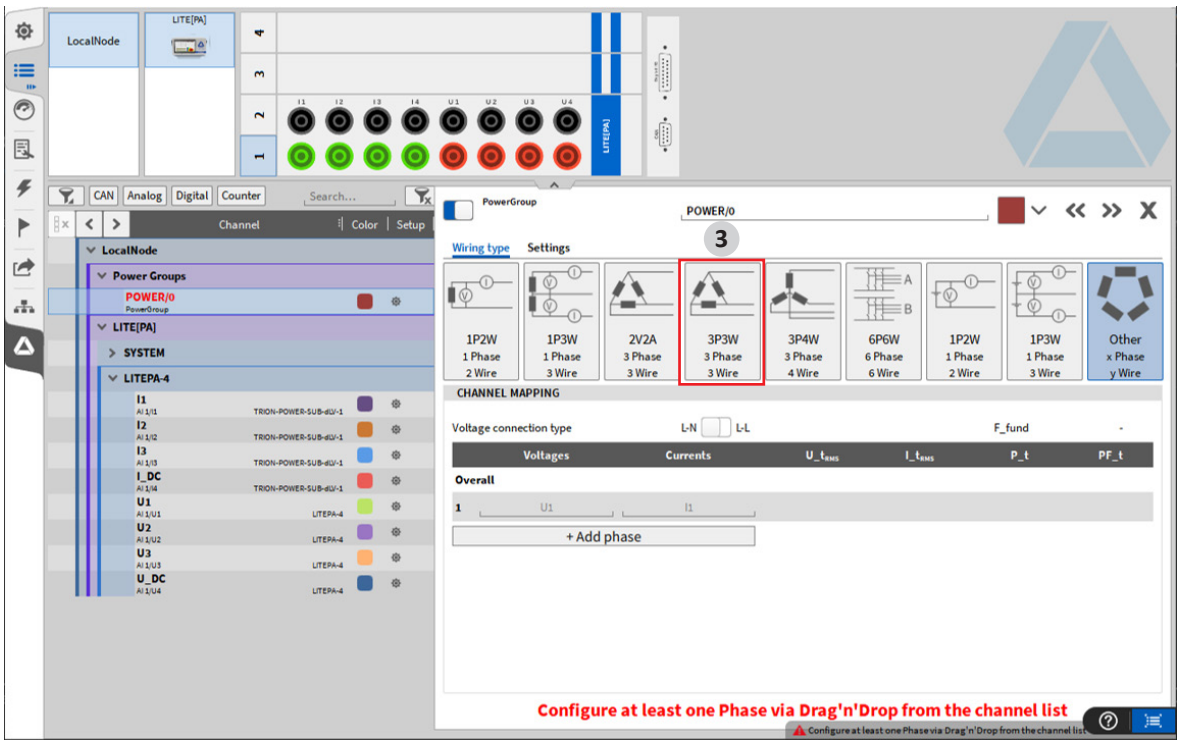

Fig. 18: Create a Power Group without channel pre-selection (2)
3. Choose the wiring type fitting your application, e.g. three phase, three wire, in line-line configuration, see ③ Fig. 18.